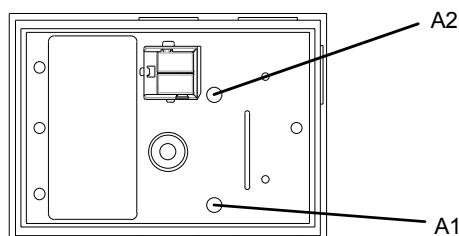

Figure 1: Position of display and operating elements on the printed circuit board of the motion detector
The IP55 motion detector (short title AP 251/_1) is a surface mounted device with integrated KNX interface for mounting on a wall or ceiling (see figure 1) in inside or outside areas. It works by passive detection of heat radiated by bodies in its capture zone. It can be set separately for the beginning and end of detected movements, whether these are to be reported over the bus and whether a further telegram is also to be sent. Owing to its large capture zone of 290°, the motion sensor is also suitable for mounting on a 90° outside corner. A special mounting base is available for this purpose as an accessory (5TC7 900 in titanium white and 5TC 901 in anthracite).
- 1 commissioning button (see figure 1): for switching over between normal mode / addressing mode